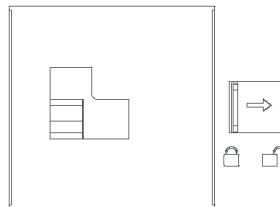

Fig. 9-1
- 2) Pull the cover plate of the maintenance switch rightward to open it (see Fig 9-1).